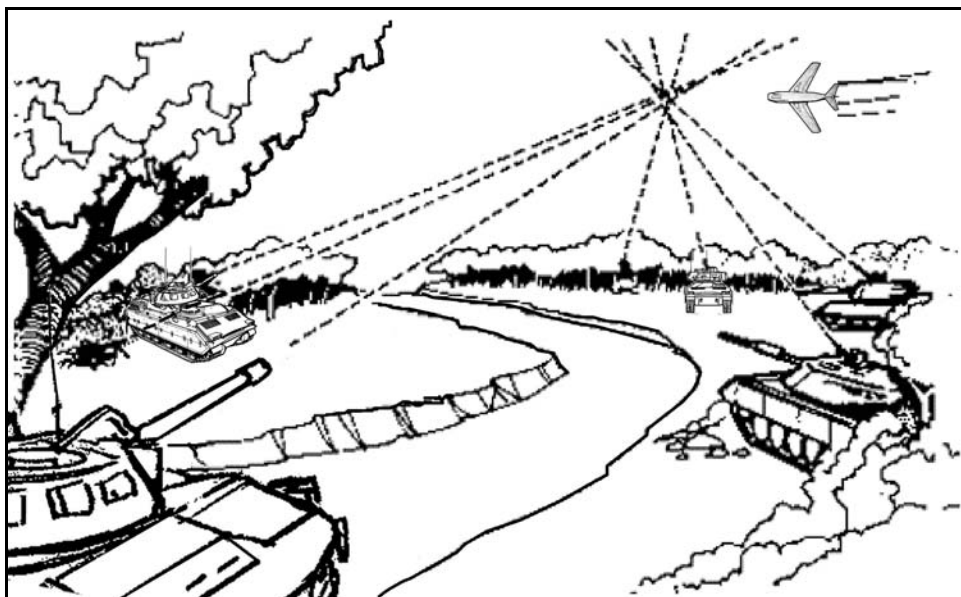
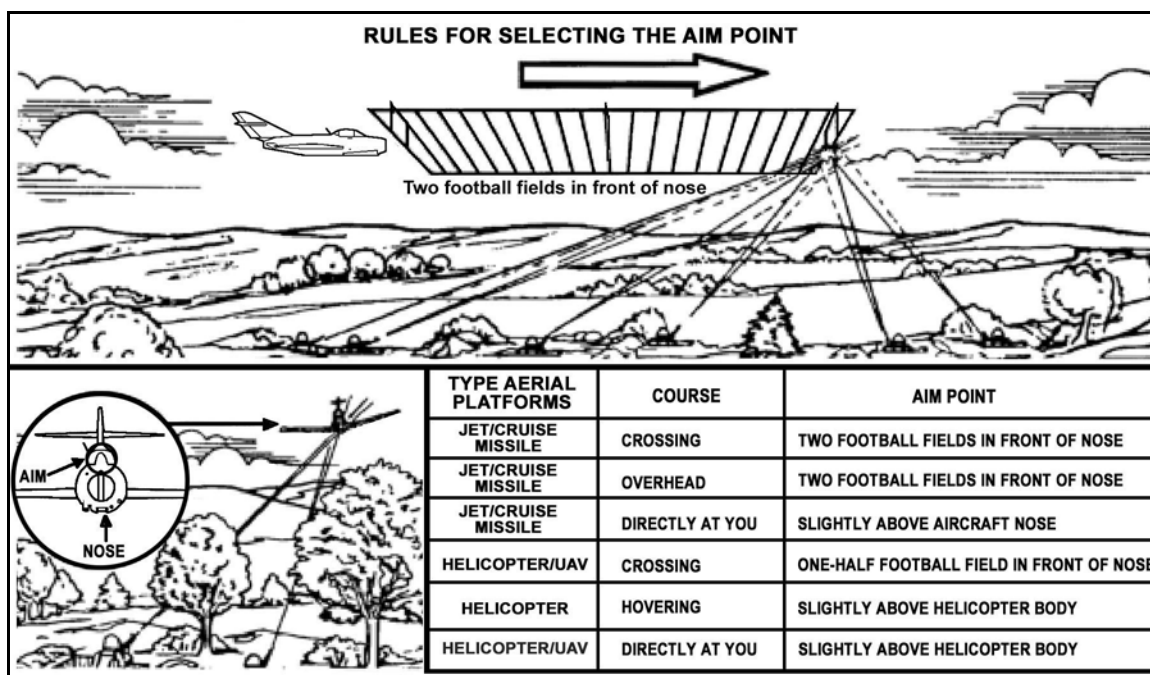

Figure 8-23. Volume of fire.
Figure 8-24. Aim points.
b. Active Air Defense. The platoon avoids engaging enemy aircraft if possible. If engagement is unavoidable, the platoon uses a technique known as volume of fire (Figure 8-23, page 8-36). This technique is based on the premise that the more bullets a unit can put in the sky, the greater the chance the enemy will fly into them. Even if these fires do not hit the enemy, a "wall of lead" in the sky can intimidate enemy pilots, causing them to break off their attack, or it can distract them from taking proper aim. One of the most important points about volume of fire is that once the lead distance is estimated, the soldier must aim at the estimated aiming point and fire at that single point until the aircraft has flown past it. The soldier maintains the aiming point, not the lead distance. Once the soldier starts firing, he does not adjust his weapon. The platoon leader establishes the aiming point based on the type of aircraft that is attacking (Figure 8-24, page 8-36).